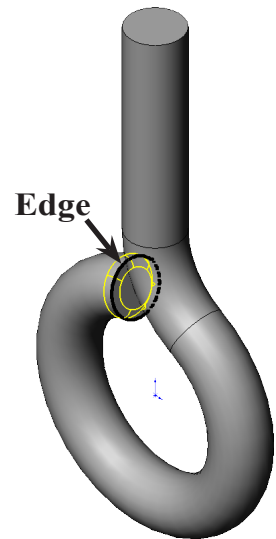

Fig. 14
Step 3. Click inside edge at end of sweep and click OK  in the Property Manager, Fig. 14.